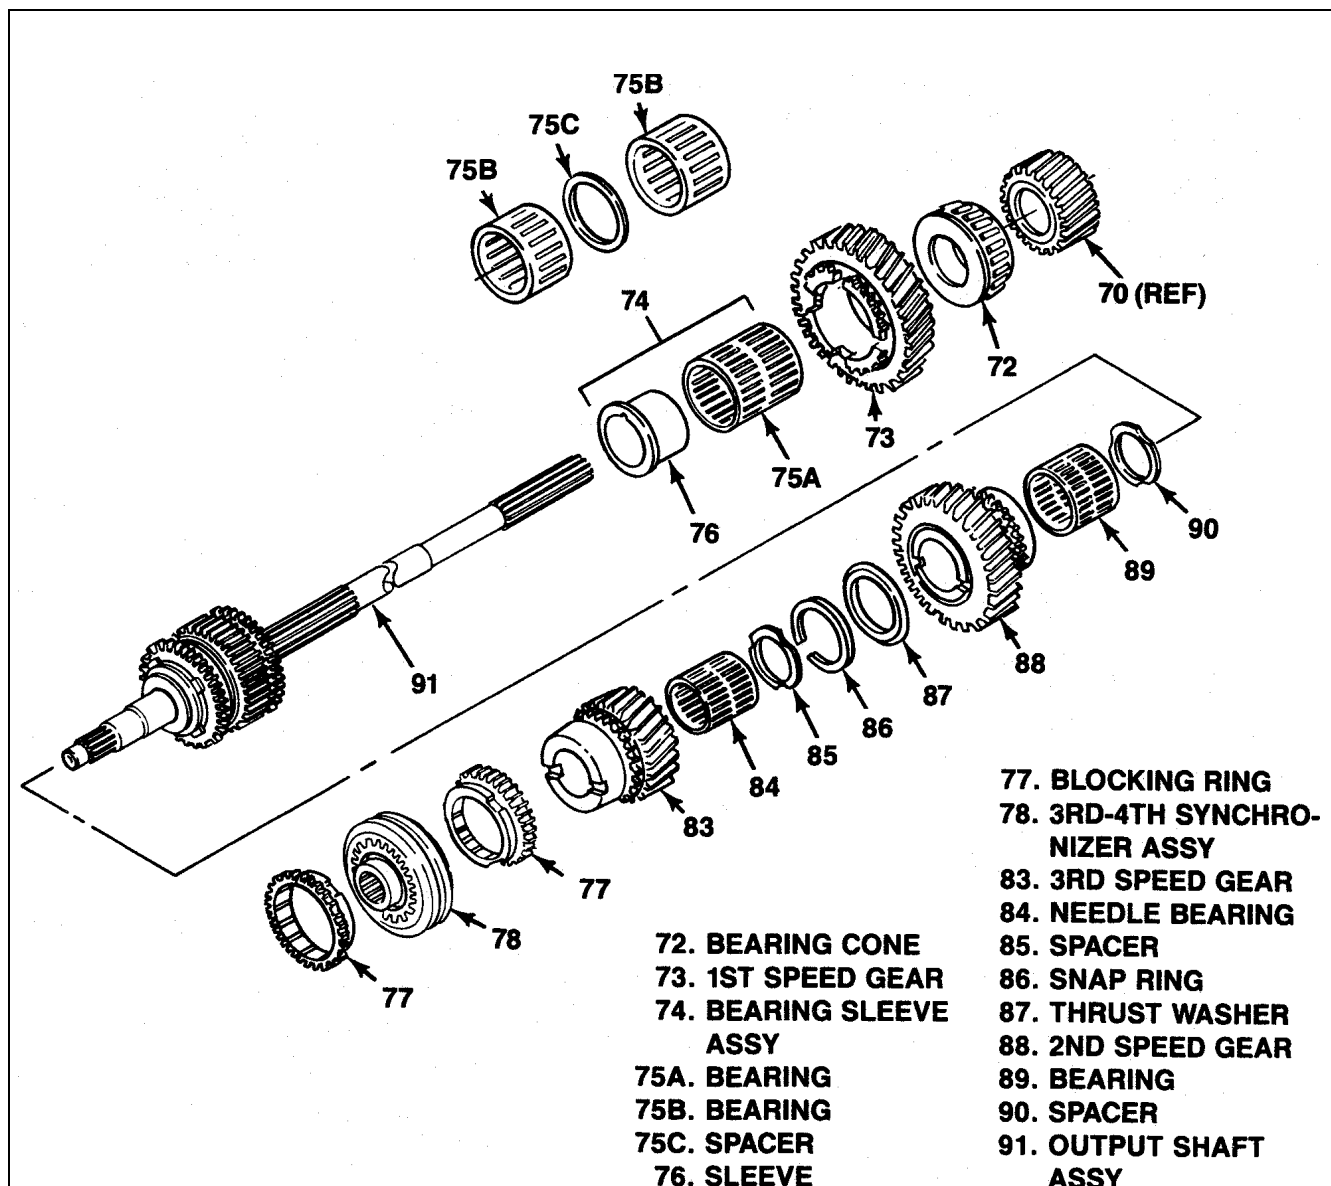

Figure 6-9. Assembly of T5 WC Output Shaft Assembly
6.11. ASSEMBLY OF T5 WC OUTPUT SHAFT GROUP. After assembly of output shaft assembly (91) as described in paragraph 6-10, proceed as follows (see figure 6-9):
- a. Install spacer (90), bearing (89), 2nd speed gear (88), thrust washer (87) and snap ring (86).
- b. Install spacer (85), bearing (84), 3rd speed gear (83) and one blocking ring (77).
- c. Install 3rd-4th synchronizer assembly (78) (as assembled in paragraph 6-6), aligning notches in installed blocking ring (77) with synchronizer inserts. Use a suitable drift that bears on synchronizer hub only.
- d. Install remaining blocking ring (77), aligning notches with inserts in installed 3rd-4th synchronizer assembly (78).
- e. At other end of assembly, install sleeve (76) and 1st speed gear bearing as follows, according to type: